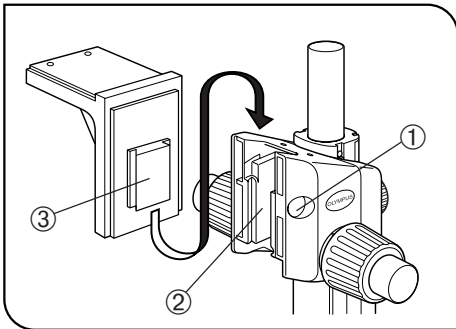

Fig. 7
### 3 Mounting the Side-by-Side Attachment (SZX-SDO) (Figs. 7 to 9)
1. Remove the dovetail mount clamping screw cap ① on the focusing assembly by inserting a thin object into the notch. (Fig. 7)
3. Align the dovetail mount ② on the focusing assembly with the dovetail mount ③ on the SZX-SDO side-by-side viewing attachment, and insert them gently. (Fig. 7)
5. Place the cap ① in the original position. (Fig. 7)